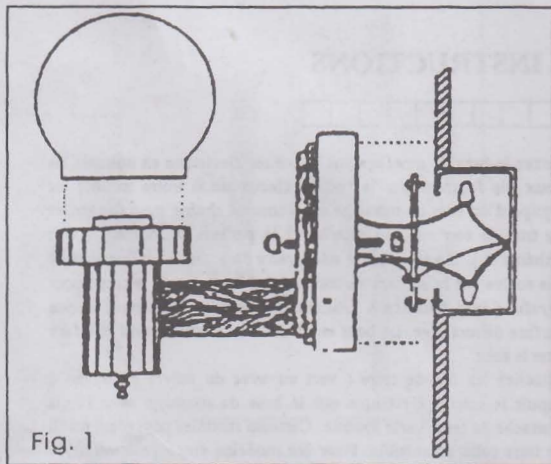
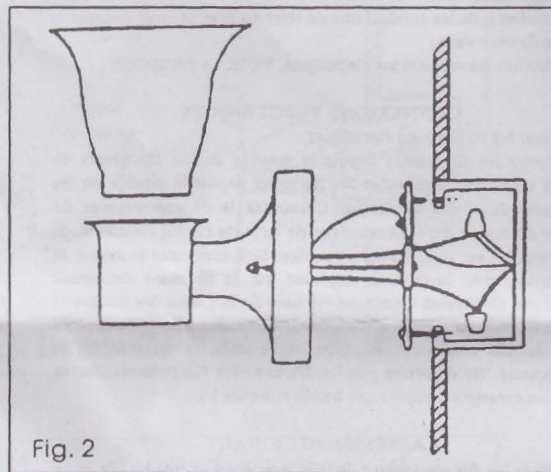
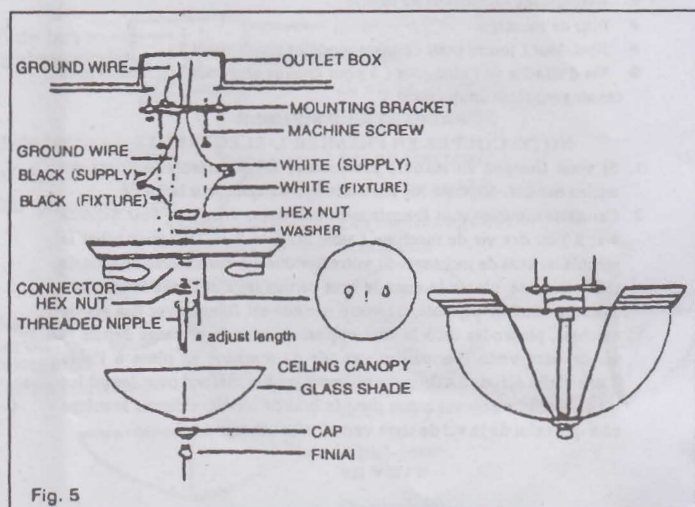

Fig. 1
Fig. 2
Fig. 5
2. Some fixtures are provided with a threaded nipple (see Fig. 1 and Fig. 5) or machine screws (see Fig. 2 and 2A) for attaching the fixture to the mounting bracket. If your fixture is supplied with a threaded nipple screw, the nipple is complete. Insert it into the mounting bracket and lock into place with a hexagonal lock nut. If your fixture is supplied with machine screw, thread the machine